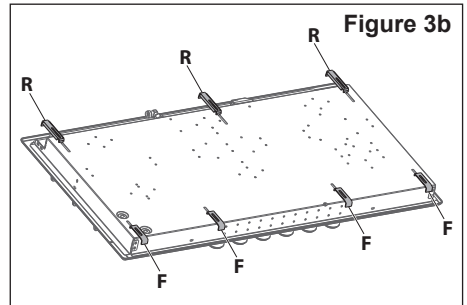

Figure 3b
**Model DEGHSL90 (fig. 3b):** The kit includes four “F” type brackets (for the front of the cooktop), three “R” type brackets (for the rear of the cooktop) and seven self-threading screws “S”.